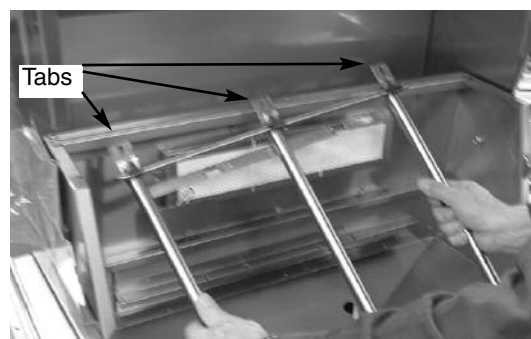

Fig 10
10. Angle the burners up and pull out making sure the tabs slide up through the cutout on the support channel at the rear of the grill. (See Fig. 10)